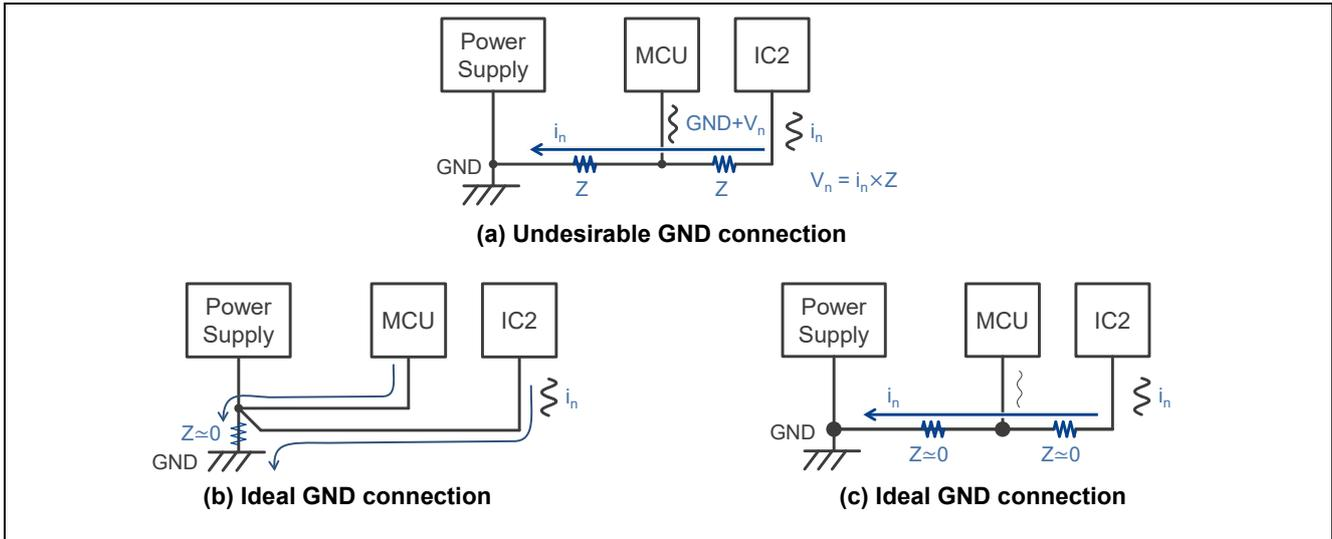

Figure 3-7 GND Layout
(2) GND Layout
If there is a device or circuit with high current loads or large load fluctuation, and if it is impossible to insert a separate power supply for each, arrange the wiring as shown in Figure 3-7 (b) or (C) so that the GND line is not shared by each device or circuit. In addition, to prevent noise infiltration into the touch sensor from the noise source, it is also effective to separate the GND pattern.